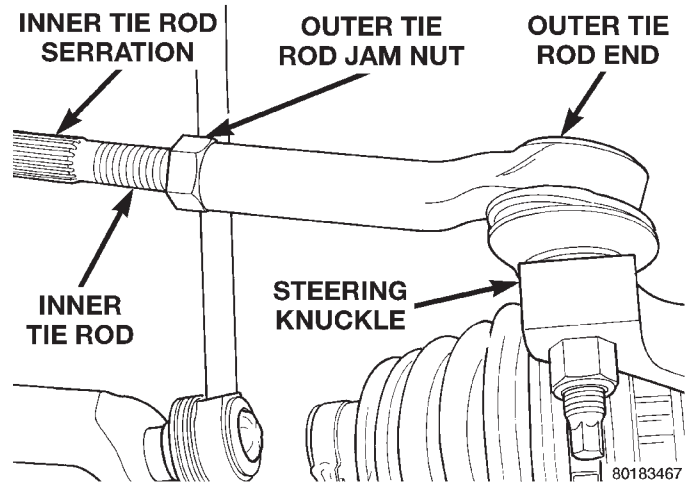

Fig. 7 Front Wheel Toe Adjustment
(3) Loosen front inner to outer tie rod end jam nuts (Fig. 7). Grasp inner tie rods at serrations and rotate inner tie rods of steering gear (Fig. 7) to set front Toe to the preferred Toe specification. See Alignment Specifications in this group of the service manual for preferred specification.
- (4) Tighten tie rod jam nuts (Fig. 7) to 75 N·m (55 ft.lbs.) torque.
- (5) Adjust steering gear to tie rod boots at tie rod.
- (6) Remove steering wheel clamp.